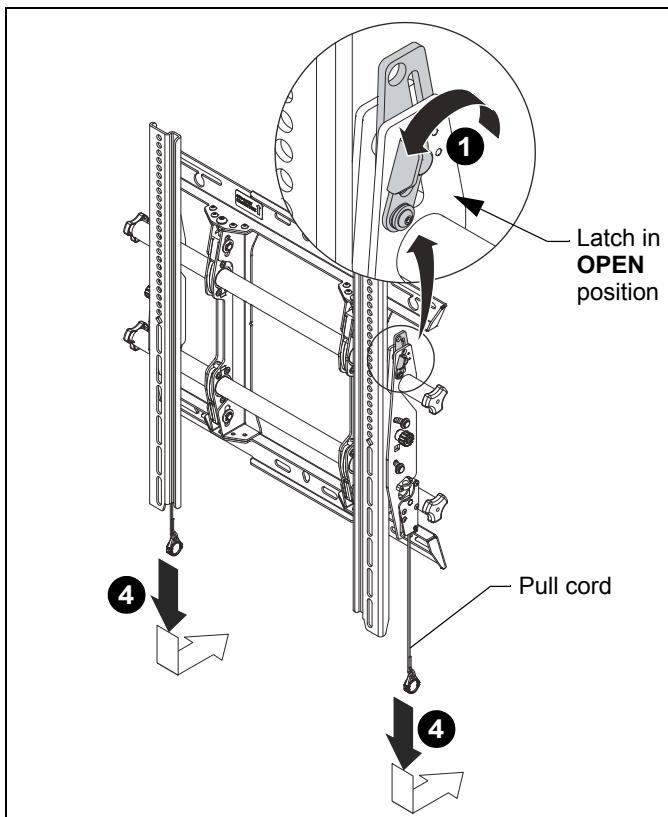

Figure 10
- Mark the attachment points for the lower mounting slots, making sure the attachment points are located on the studs. (See Figure 10)
- Drill 7/32" (5.5mm) pilot holes at markings for lower mounting holes. (See Figure 10)
- Use two 5/16 x 2-1/2" flanged lag bolts (N) and two 5/16" slotted washers (Q) to attach the mount to the wall through the lower mounting holes. (See Figure 10)
- Hang screen onto the top rail of the mount (Z). (See Figure 10)
- Move latch on top of interface bracket to **OPEN** position and hang top hook of interface brackets (X and Y) onto the top rail of the mount (Z). (See Figure 10)
- Pull downward on the pull cords and swing inward toward wall, latching interface brackets to lower rail and fastening bottom of screen to the mount. (See Figure 10)
- Attach end of pull cord (a magnet) to mount so it does not extend beyond bottom of screen. (See Figure 10)